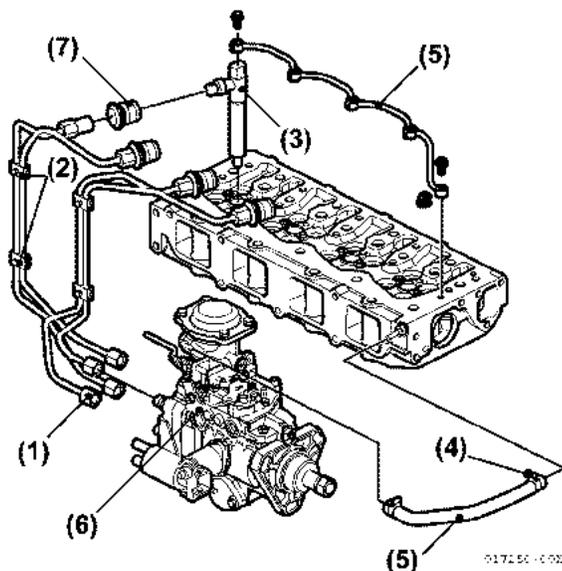

Figure 6-9
4. Remove return fuel line from fuel injection nozzle (Figure 6-9, (4)).
5. Remove the bolt retaining the fuel injection nozzle. Remove fuel injection nozzle (Figure 6-9, (3)). See Remove the fuel injection line (Figure 5-32) through (Figure 5-34): on page 5-32.